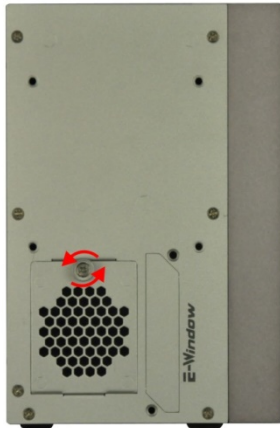

Figure 3-5: Remove the Fan Bracket Cover from the System
Step 1: Loosen the thumbscrew on the rear panel and remove the fan bracket cover from the system (Figure 3-5).